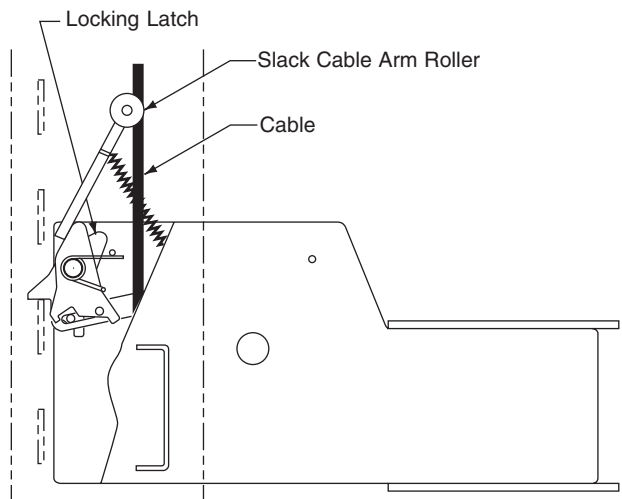

Fig. 15
**IMPORTANT** Cables must fit in slack cable arm rollers, Fig.15